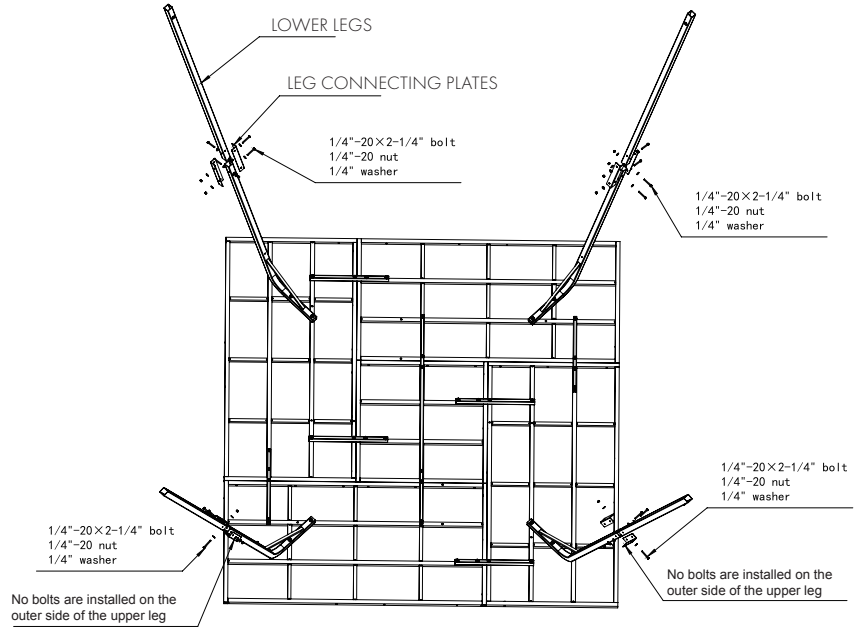

FIGURE 4
Attach the four **LOWER LEGS (#7)** and eight **LEG CONNECTION PLATES (#6)** to the four **UPPER LEGS** by using (14) 1/4"-20 x 2-1/4" bolts, (14) 1/4" lock nuts and (28) 1/4" flat washers (Figure 4). **Be sure to not over tighten.**